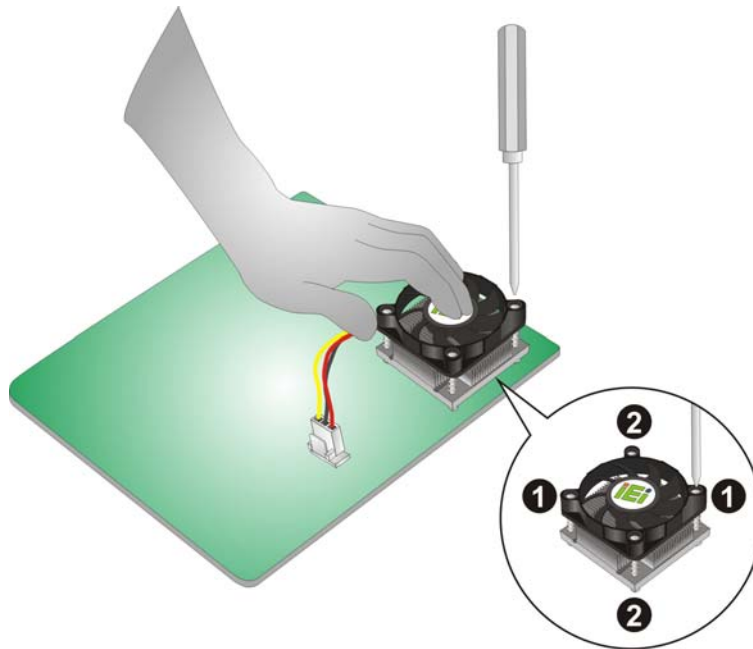

Figure 4-6: Secure the Cooling Kit
- Step 4:** Place the cooling kit onto the CPU. Push down the fan with some pressure to secure the cooling kit with the support bracket. See **Figure 4-6**.
- Step 5:** Tighten the screws. Use a screwdriver to tighten the four screws. In a diagonal pattern, tighten each screw a few turns then move to the next one, until they are all secured. Do not overtighten the screws. See **Figure 4-6**.